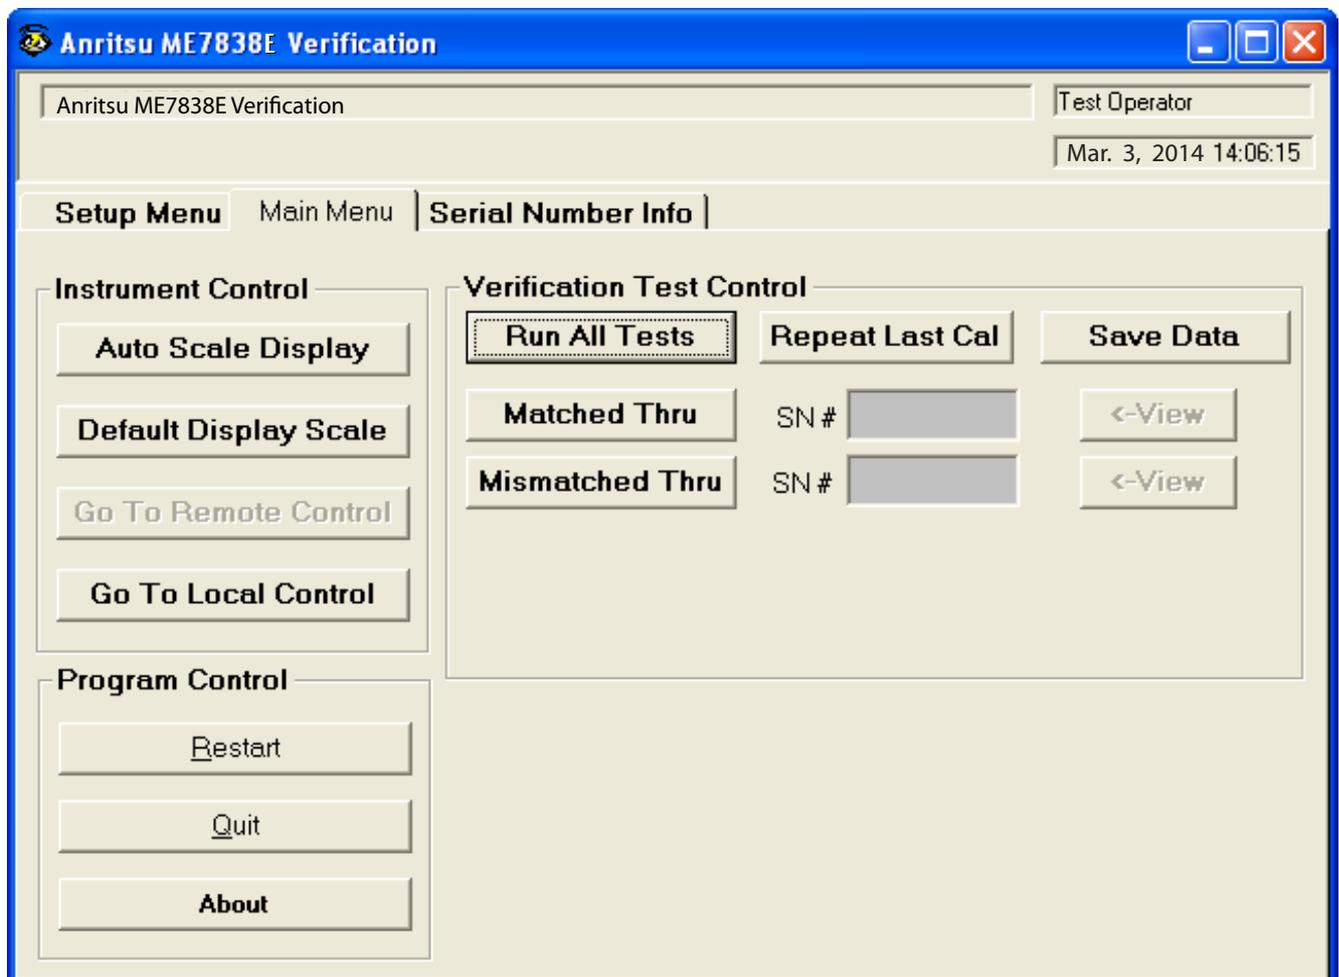

Figure 3-35. ME7838E Application Interface – Main Menu Tab
- The Main Menu tab display is described in the section immediately following and is shown in Figure 3-35
This command button runs both the Matched Thru and Mismatched Thru tests. Program execution starts with Section 3-11 “Matched Thru Tests” on page 3-28 and then continues with Section 3-12 “Mismatched Thru Tests” on page 3-30. When both tests are completed, program execution returns to the **Main Menu tab** shown in Figure 3-35, “ME7838E Application Interface – Main Menu Tab” on page 3-23.
This command button re-calibrates the VNA according to the CURRENT calibration. This provides a way to recalibrate the VNA without having to reset the program parameters in case the original calibration was flawed for some reason. When the calibration sequence is complete, program execution continues to the Main Menu tab shown previously in Figure 3-35, “ME7838E Application Interface – Main Menu Tab” on page 3-23.
This command button only runs the Mismatched Thru tests. If selected, program execution continues in Section 3-12 “Mismatched Thru Tests” on page 3-30. When the tests are completed, the program returns to the Main Menu tab shown in Figure 3-35, “ME7838E Application Interface – Main Menu Tab” on page 3-23.
9. If only the Matched Thru button was selected, the program returns to the “Application Interface – Main Menu Tab” on page 3-23. The dialog box is shown in Figure 3-35, “ME7838E Application Interface – Main Menu Tab” on page 3-23.
The dialog box is shown in Figure 3-35, “ME7838E Application Interface – Main Menu Tab” on page 3-23.